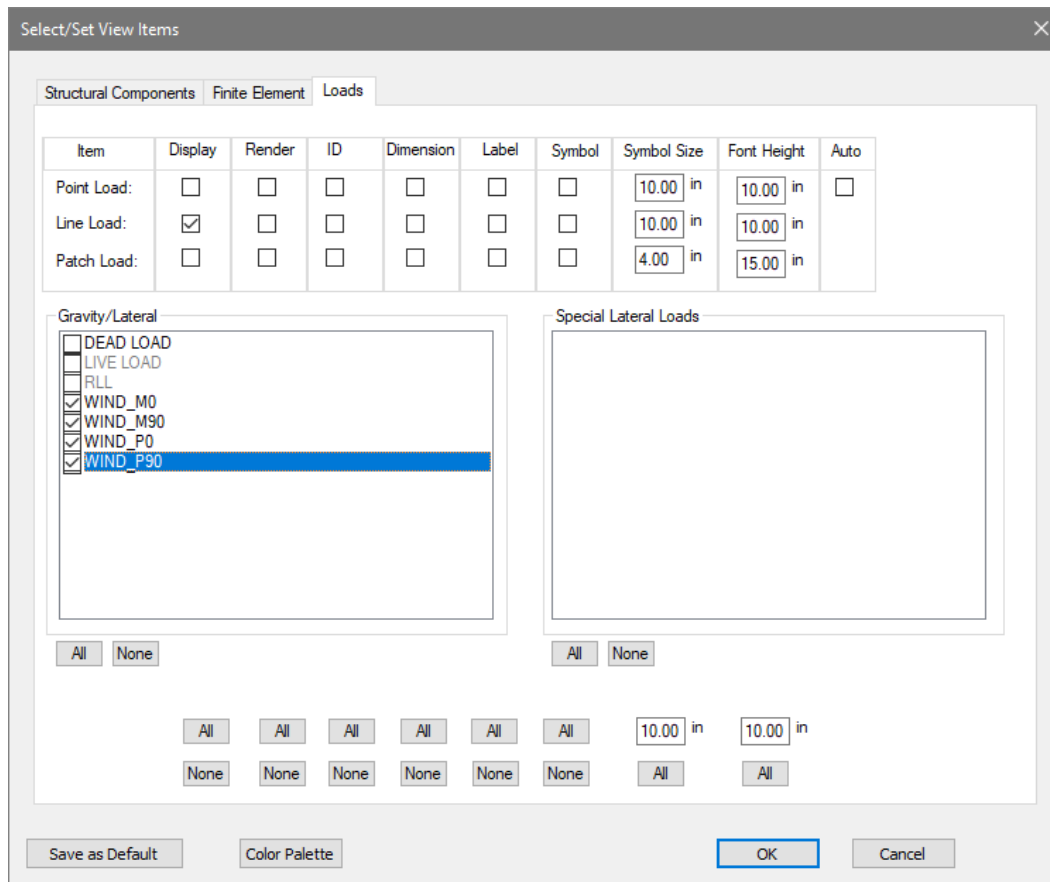

Figure 11-3
- Click on the *Loads* tab and make the selections as shown in **FIGURE 11-3**.